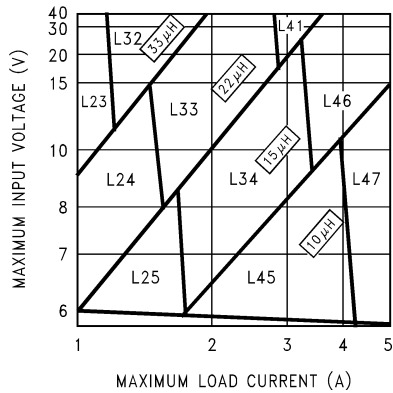
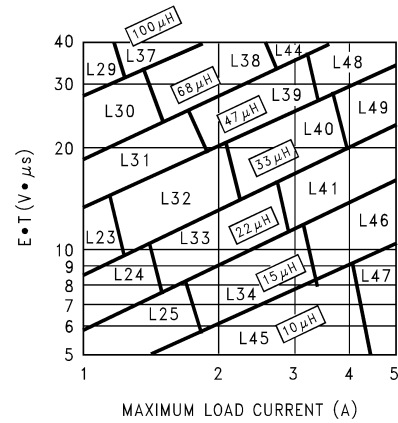

Figure 18. LM2679-3.3
Figure 21. LM2679-ADJ
**Step 3:** Determine the inductor required by using one of the four nomographs, Figure 18 through Figure 21. Table 1 provides a specific manufacturer and part number for the inductor.
**Step 5:** Determine an input capacitor from Table 8 and Table 9 for fixed output voltage applications. Use Table 3 and Table 4 to find the specific capacitor type. For adjustable output circuits select a capacitor from Table 3 and Table 4 with a sufficient working voltage (WV) rating greater than  $V_{in\ max}$ , and an rms current rating greater than one-half the maximum load current (2 or more capacitors in parallel may be required).
**Step 3:** Use the nomograph for the 3.3V device, Figure 18. The intersection of the 16V horizontal line ( $V_{in\ max}$ ) and the 4A vertical line ( $I_{load\ max}$ ) indicates that L46, a 15 $\mu$ H inductor, is required.
**Step 3:** To use the nomograph for the adjustable device, Figure 21, requires a calculation of the inductor Volt•microsecond constant ( $E \cdot T$  expressed in  $V \cdot \mu S$ ) from the following formula:
Using Figure 21, the intersection of 27V• $\mu S$  horizontally and the 3.5A vertical line ( $I_{load\ max}$ ) indicates that L48, a 47 $\mu H$  inductor, or L49, a 33 $\mu H$  inductor could be used. Either inductor will be suitable, but for this example selecting the larger inductance will result in lower ripple current.
When using the adjustable device in low voltage applications (less than 3V output), if the nomograph, Figure 21, selects an inductance of 22μH or less, Table 12 and Table 13 do not provide an output capacitor solution. With these conditions the number of output capacitors required for stable operation becomes impractical. It is recommended to use either a 33μH or 47μH inductor and the output capacitors from Table 12 and Table 13.